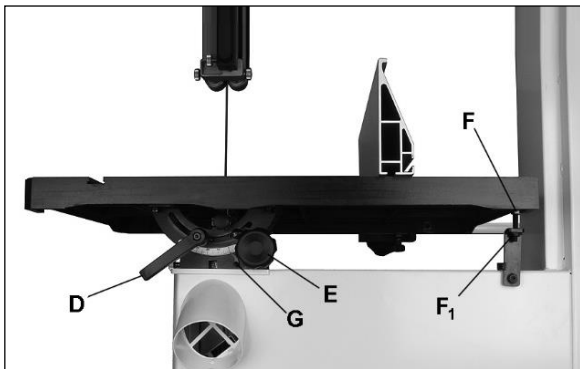

Fig 15
To tilt the table, loosen the lock handle (D, Fig 15) and rotate the knob (E).
Loosen nut (F1, Fig 15) to adjust the stop.